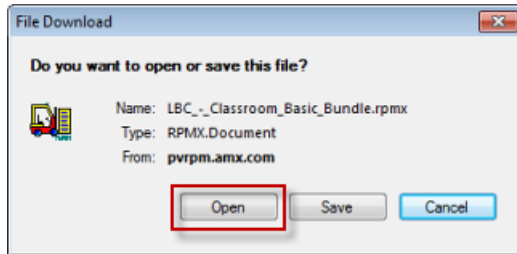

FIG. 4 File Download dialog
- When the application prompts you to open or save the file, click **Open** (FIG. 4):